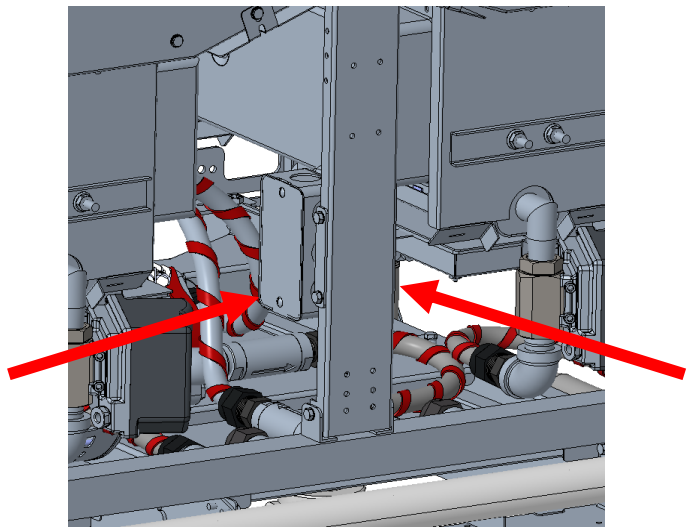

Fig 6
6. Mount both handy boxes back to back in location shown on rear center vertical support (Figure 6).